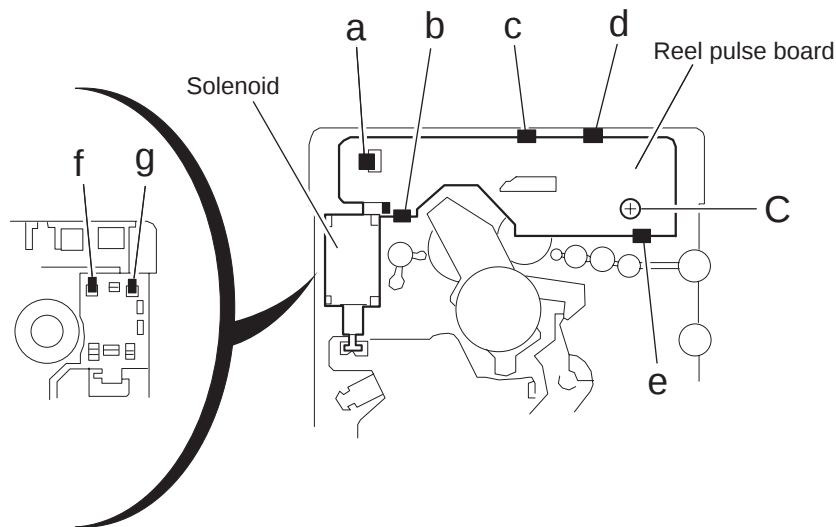

Fig.10
3.2.5 Removing the reel pulse board and solenoid (See Fig.10)